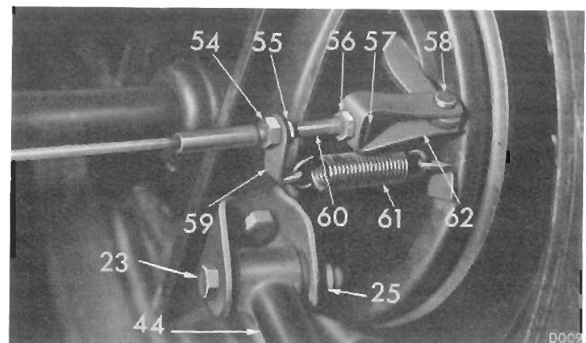

Fig. 42. Handbrake connections
2. Disconnect the handbrake cable (60) from the backplate lever withdrawing the clevis pin (58). Disconnect the spring (61). Fig. 42.
5. Jack up the vertical links (12), fit the dampers as described on page 4-122 and reconnect the axle shaft couplings.
6. Connect the handbrake cable to the back-plate lever, refit the pull-off spring (61). Fig. 42, reconnect the flexible brake hose. Adjust and bleed the brakes.
7. Place a trolley jack under the differential casing, remove the chassis stands and, with the vertical links supported at their running height, load the car and lower its rear end until the axle shafts assume their static laden operating position. This is to allow the rubber bushes to assume their correct working position before tightening the nuts (15). (14) and (54).